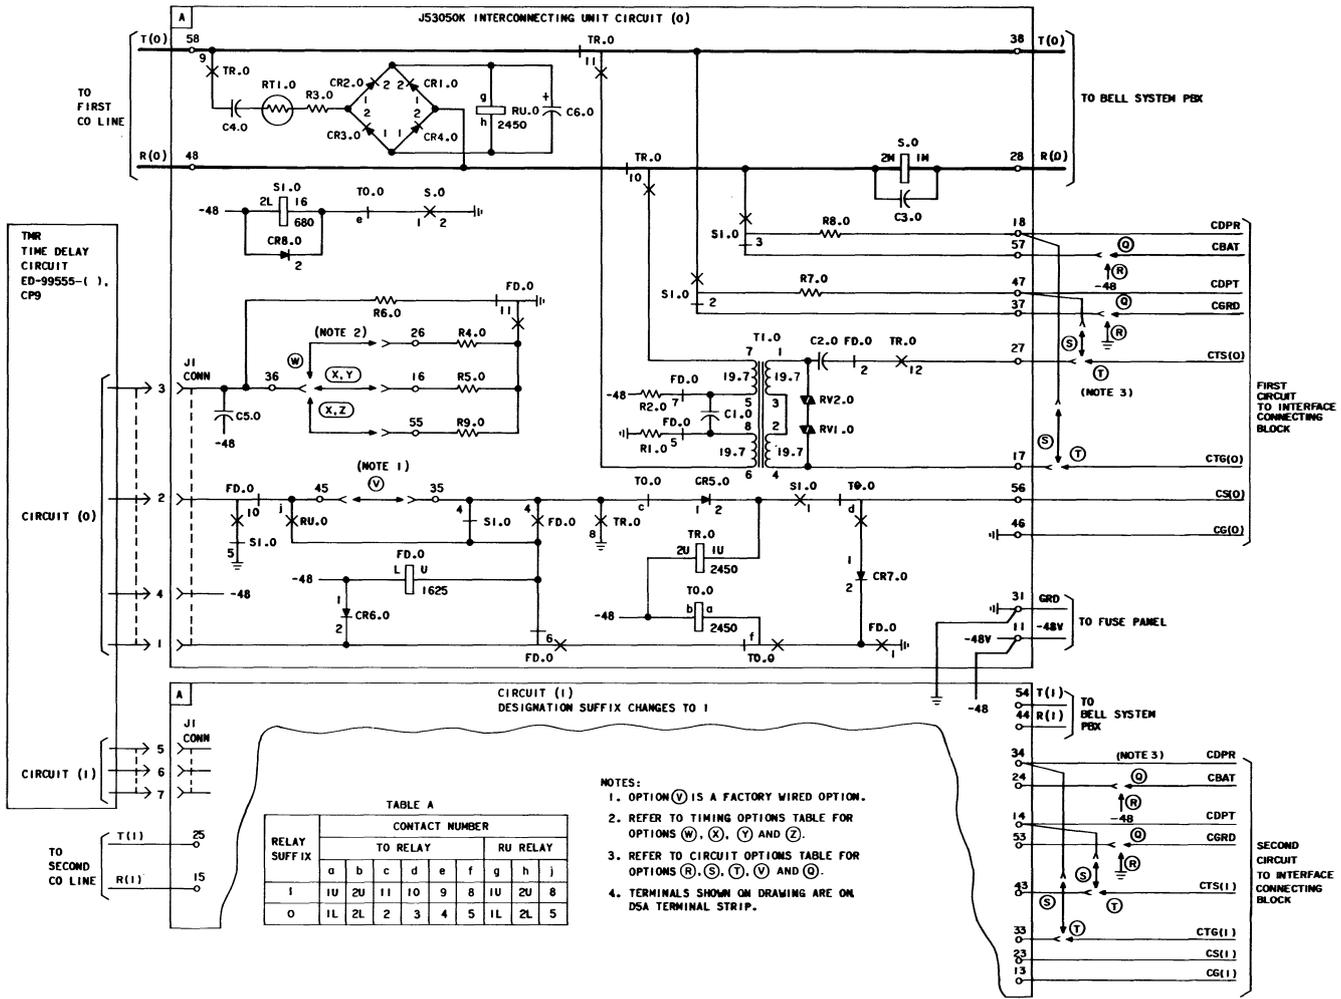

Fig. 4—Simplified Schematic and Connections—Connecting Arrangement CTH
#### **4. OPERATION (Fig. 4)**
**6.01** For connecting information refer to Fig. 4 and Tables A and B.